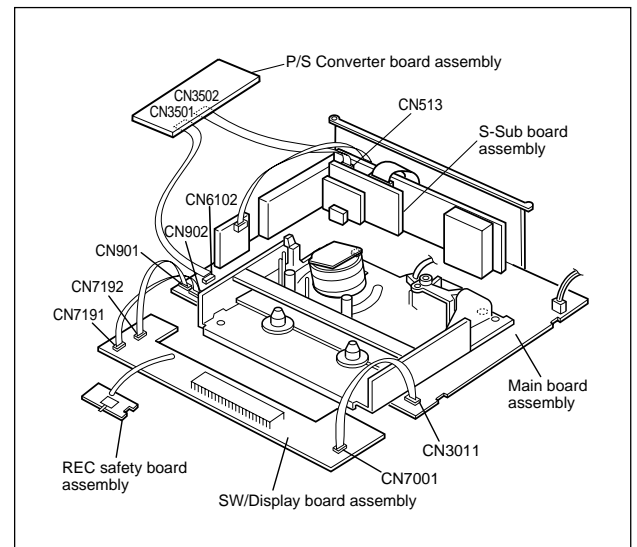
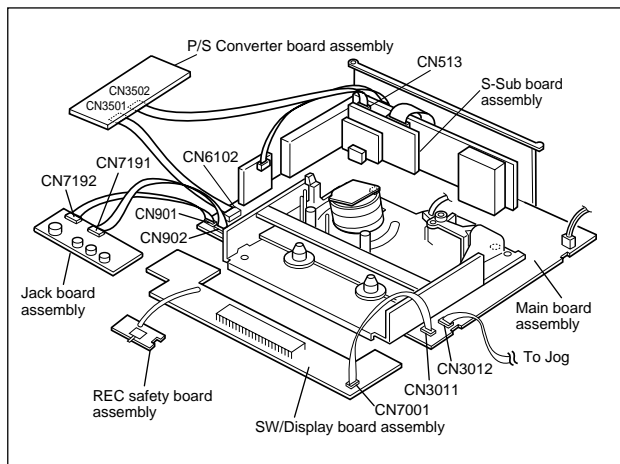

Fig. 1-4-3
Fig. 1-4-4
- (10) Place the SW/Display board assembly and REC safety board assembly on the front side of the Mechanism and Main board assemblies which was removed at the step (8), then connect the flat wires into CN3011, CN901 and CN902 of the Main board assembly. (Refer to Fig. 1-4-3.)
- (11) Place the P/S Converter board assembly on the left side of the Mechanism and Main board assemblies, then connect the flat wires into CN6102 on the Main board assembly and CN513 on the S-Sub board assembly. (Refer to Fig. 1-4-3.)
- (10) Place the SW/Display board assembly, REC safety board assembly and Jack board assembly on the front side and left side of the Mechanism and Main board assemblies which was removed at the step (8), then connect the flat wires into CN3011, CN901 and CN902 of the Main board assembly. (Refer to Fig. 1-4-4.)
- (11) Place the P/S Converter board assembly and Jack board assembly on the left side of the Mechanism and Main board assemblies, then connect the flat wires into CN6102 on the Main board assembly and CN513 on the S-Sub board assembly. (Refer to Fig. 1-4-4.)
- (12) Connect the power cord to the wall socket, and lift the cassette holder.
#### 1.4.4 Cassette loading and ejection methods in the "SERVICE POSITION" (See Fig. 1-4-3 or Fig. 1-4-4.)
- (1) Insert a cassette halfway in the Cassette holder assembly.
- (2) Set the switch on the REC safety board assembly to ON (by pressing the switch).
- (3) As soon as the cassette starts to be loaded, set the switch on the REC safety board assembly to OFF (by releasing the switch).
- (4) Now the desired operation (recording, playback, fast forward, rewind, etc.) is possible in this status (the status shown in Fig. 1-4-3 or Fig. 1-4-4).
- When performing diagnostics of the tape playback or the recording condition in the "SERVICE POSITION", enter the desired mode before turning the set upside down, and do not change the mode when performing diagnostics while the set is placed upside down. If you want to switch the mode, turn the set to the normal position (the status shown in Fig. 1-4-3).
- (5) The switch on the REC safety board assembly does not have to be operated when ejecting a tape. But be sure to turn the set to the normal position before ejecting the tape.